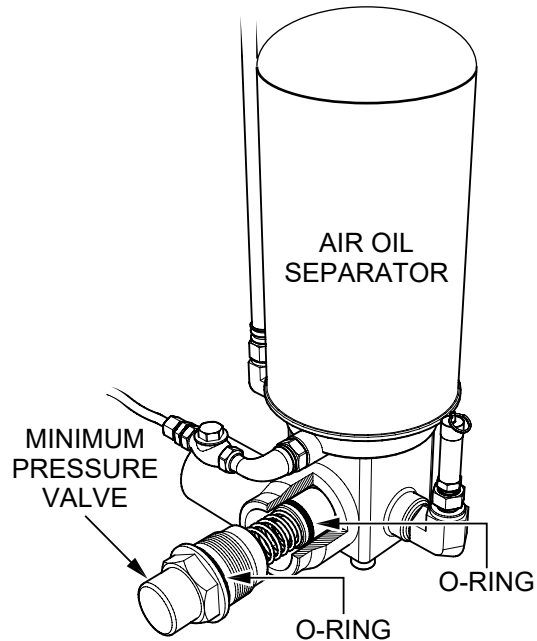

Figure 56. Minimum Pressure Valve O-Rings
1. Remove the **minimum pressure valve** (Figure 56) from the **air oil separator**.
3. Replace both **O-rings** (Figure 56).